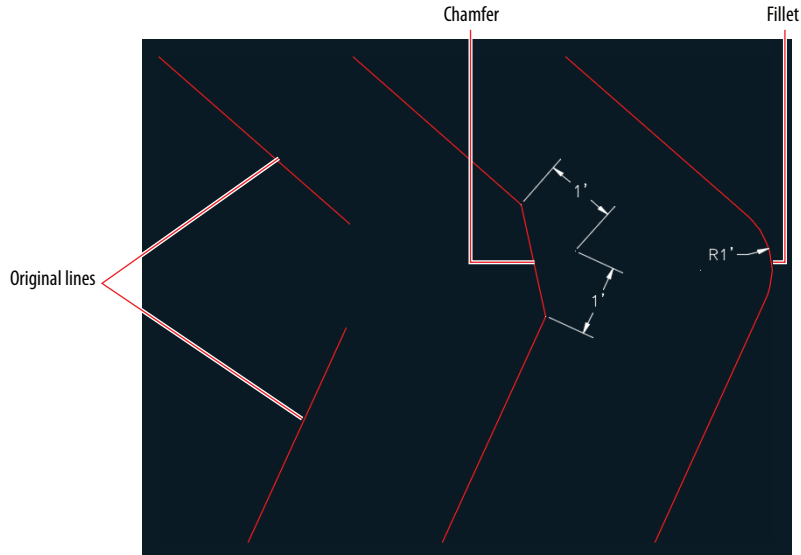

FIGURE 2.27 Chamfered and filleted lines
3. Click one line and then hover the cursor over the second line; you'll see a preview of the chamfer that will be created. Click the second line to perform the chamfer and complete the command. (The chamfer is shown in the middle of Figure 2.27.)
5. Click the first line, and then position the cursor over the second line; the fillet preview shows on screen. Click the second line to commit to that particular radius. (A fillet is shown at the right of Figure 2.27.)